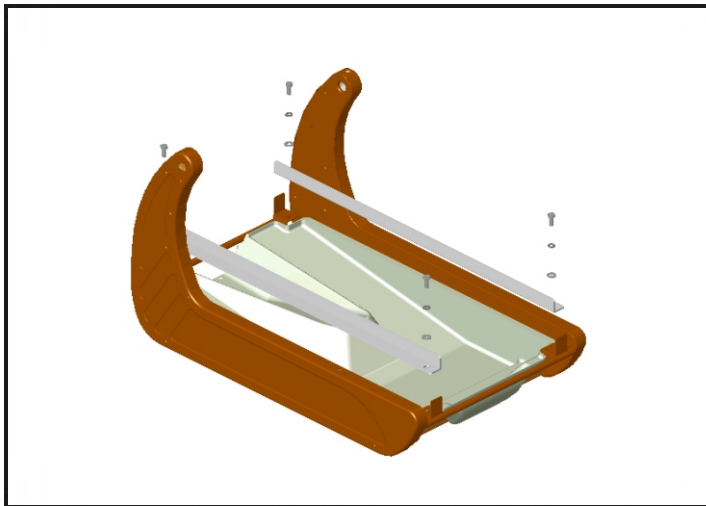

Figure 2-1: Removing the Rails.
1. Remove Conveyor Cart (see page 11 Conveyor Cart Assembly for instructions) and then remove the four (4) sets of Hardware (Bolt, Lock Washer, and Washer) from each corner of the machine frame and remove the rails from the frame (see Figure 2-1: Removing the Rails). Note the orientation of the Hardware and the Rails.